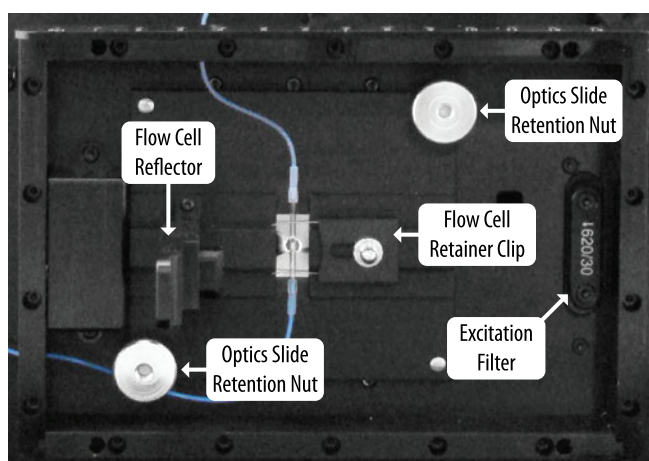

Figure 1. Arrows indicate the flow cell retainer clip, optics slide retention nuts, flow cell reflector pin, and excitation filter.
1. After removing the optics cover, the excitation filter can be removed by grasping the exposed handle (*Figure 1*). **AVOID TOUCHING LENSES ON THE FILTERS AND DICHOIC MIRROR AS THIS MAY CAUSE DAMAGE.** Upon removal, place each filter set component in its appropriate storage box. Identifying wavelengths are printed on each filter/mirror handle and storage box.
2. Open the flow cell reflector and gently move the flow cell over the reflector to the left. There is no need to disconnect the plumbing. Remove the optics slide retention nuts and gently pull to remove the optics slide from the instrument (see *Figure 1* to identify parts).